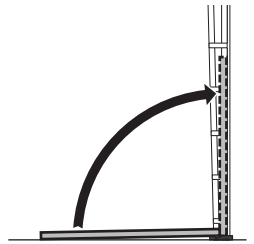

Figure 17
2. Center the Door on the floor between the Vertical Tracks. With the bottom of the Door resting on spacer blocks, tip the Door up into vertical position and flush to the Side Frames. See Figure 17.